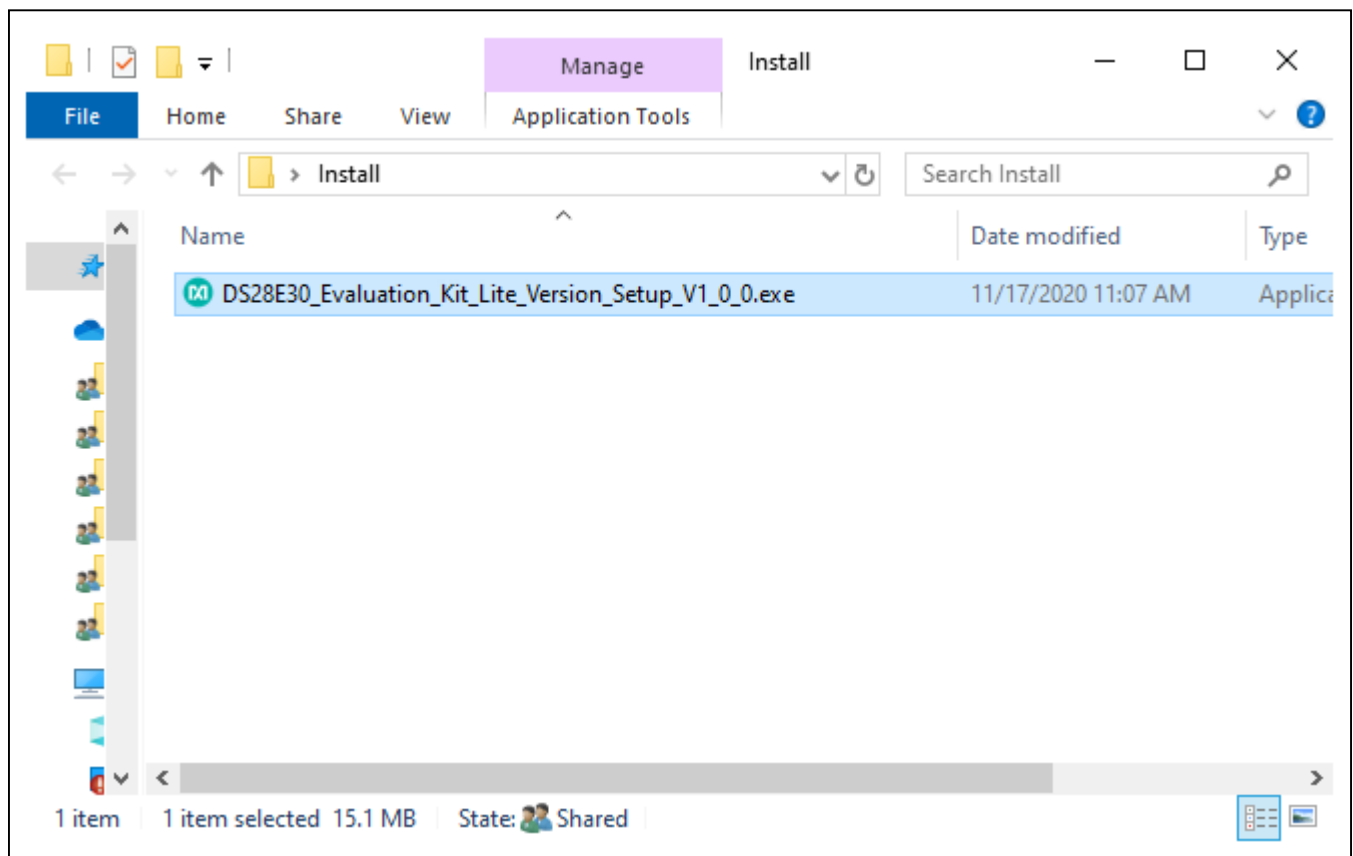

Figure 1. File Viewer
- 2) In a file viewer (Figure 1), double-click the **DS28E30\_Evaluation\_Kit\_Lite\_Version\_Setup\_V1\_0\_0.exe** file to begin the installation.